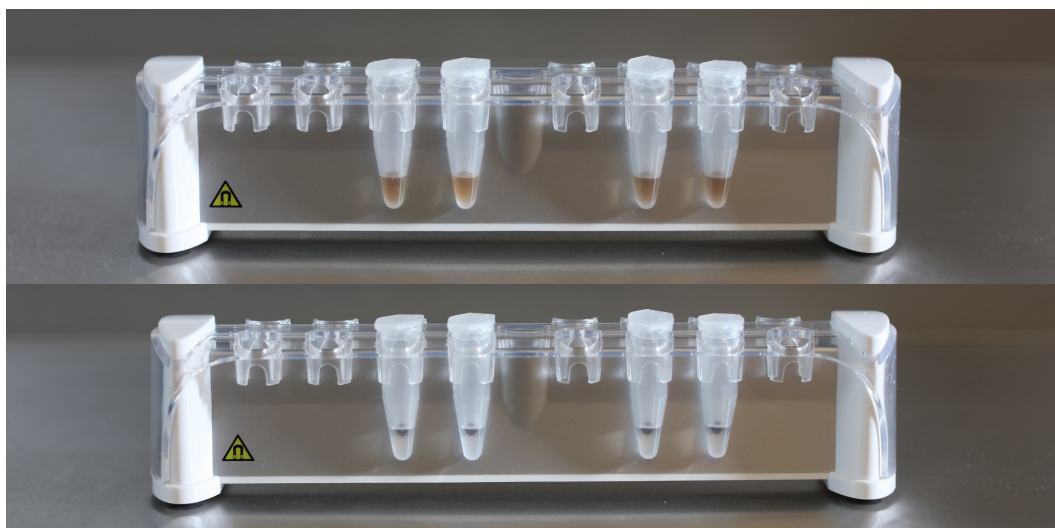

Figure 37. Tubes in DynaMag™-2 Magnetic stand.
7. After the incubation, place the BP Tube on the DynaMag™-2 Magnetic stand and leave it for 2 minutes to separate the beads from the solution (Figure 37).